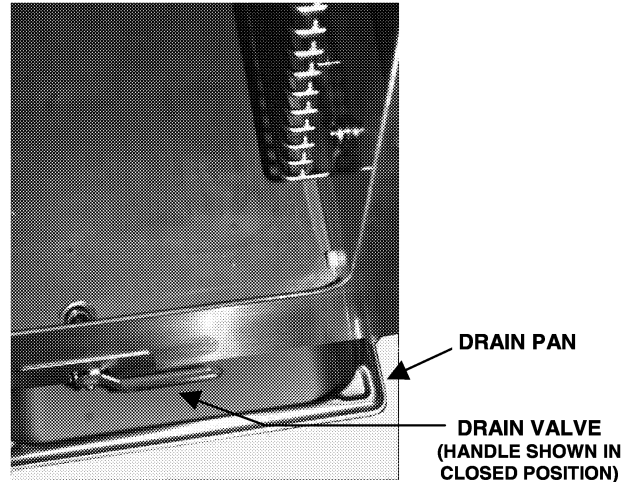

Figure 3-1 Draining the Steamer
- (1) Press the OFF (bottom) end of the ON/OFF Switch to turn the power off and deenergize all controls.
- (2) Open the steamer door.
- (3) Make sure an empty drain pan (2½" min depth) is installed in the drain racks and drain the steamer by turning the drain handle (up) to the drain position.
- The drain pan should have the front edge pulled out just enough, so that the drain will empty fully into the pan. Having the pan pushed back too far into the rack or pulled out too far from the rack can cause spillage or tipping of the drain pan respectively. (See Figure 3-1)